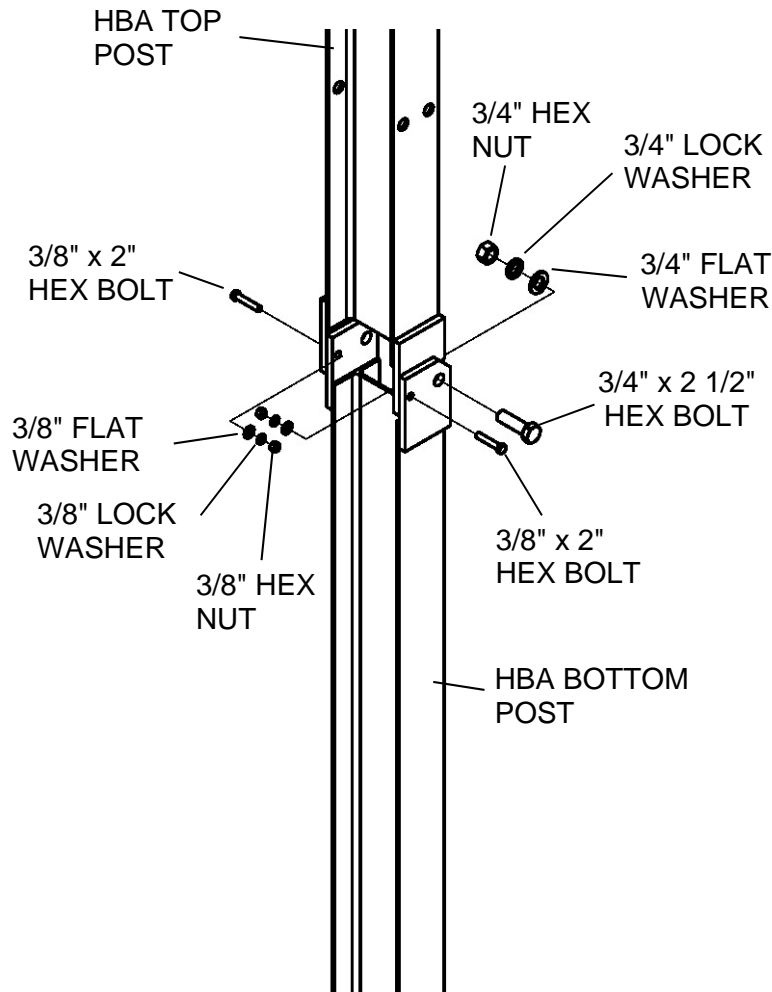

Figure 6 - Post 1 Assembly
- 2.5 Insert the HBA Top Post into the HBA Bottom Post. Bolt these Posts together first using (1) 3/4" x 2 1/2" hex bolt, (1) 3/4" flat washer, (1) 3/4" lock washer and (1) 3/4" hex nut, then using (2) 3/8" x 2" hex bolts, (2) 3/8" flat washers, (2) 3/8" lock washers and (2) 3/8" hex nuts as shown in Figure 6. The 3/4" x 2 1/2" hex bolt must be fastened through the HBA Top Post and HBA Bottom Post on the side opposite the Angle Strut (refer to Section 3.0 Angle Strut Assembly).